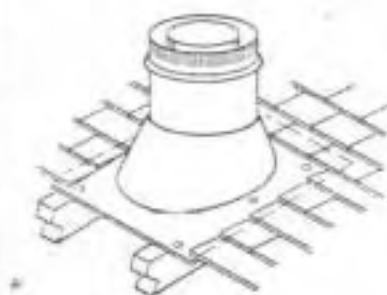

Figure 21
I. Extend the vent sections through the roof structure. Install the roof flashing over the vent section and position such that the vent column rises vertically (use carpenter's level) (Figure 21). Nail along perimeter to secure flashing or adjust roofing to overlap the flashing edges at top and sides only and trim where necessary. Seal the top and both sides of the flashing with waterproof caulking.